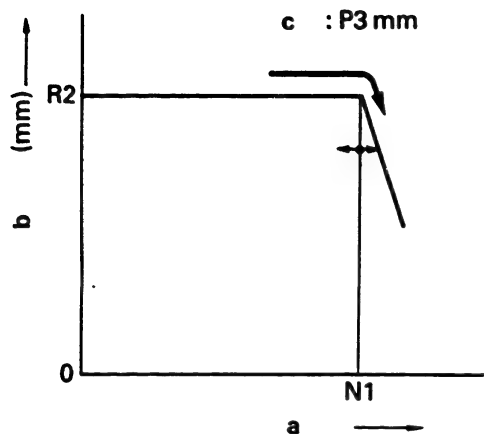

Fig. 70
2. Increase pump speed and adjust adjusting bolt (130) so that the control rack begins to move from R₂ in "fuel-decrease" direction. (Figs. 70 and 71)